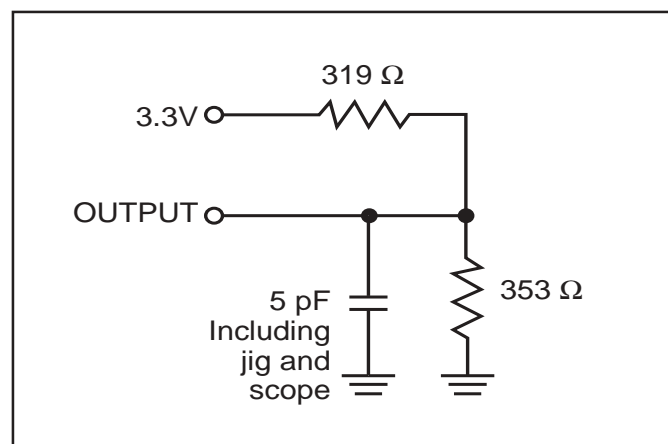

Figure 2
2. Tested with the load in Figure 2. Transition is measured ± 200 mV from steady-state voltage. Not 100% tested.
3. Tested with the load in Figure 2. Transition is measured ± 500 mV from steady-state voltage. Not 100% tested.